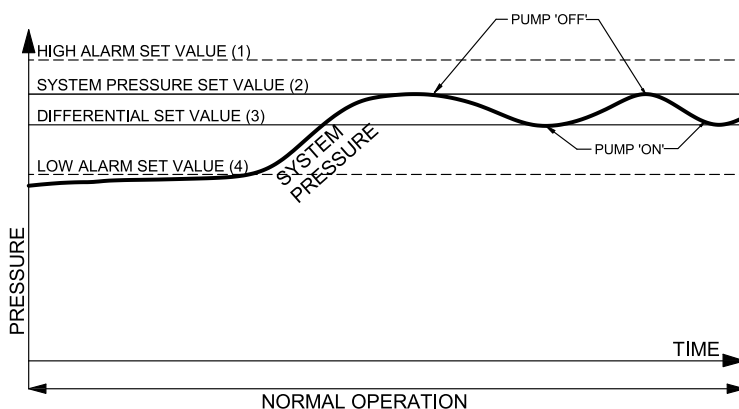

Fig. 18
P1 System pressure (2) see Fig. 18	Sets the required system pressure. Set in 0.1 bar increments up to the maximum set value for the unit. For Mikrofill Mini 130 and 230 the value is 3.0 bar max.
P2 Differential pressure (3) see Fig. 18	Sets the pressure differential (pump start pressure relative to the system pressure). Set in 0.05 bar increments below the System pressure (2), cannot be set higher than 0.1 bar below the System pressure (2).
P3 Hi Alarm (1) see Fig. 18	Sets high system pressure alarm. Set in 0.05 bar increments above the System pressure (2). Cannot be set below System pressure + 0.5 bar. Alarm auto resets when system pressure is reduced below alarm level.
P4 Lo Alarm (4) see Fig. 18	Sets low system pressure alarm. Set in 0.05 bar increments below the System pressure (2) - Differential pressure (3) - 0.05 bar. Alarm auto resets when system pressure is increased above alarm level
During normal operation the unit will monitor the system pressure and re-pressurise the system if the system pressure drops below the system pressure - differential pressure. See Fig. 18.